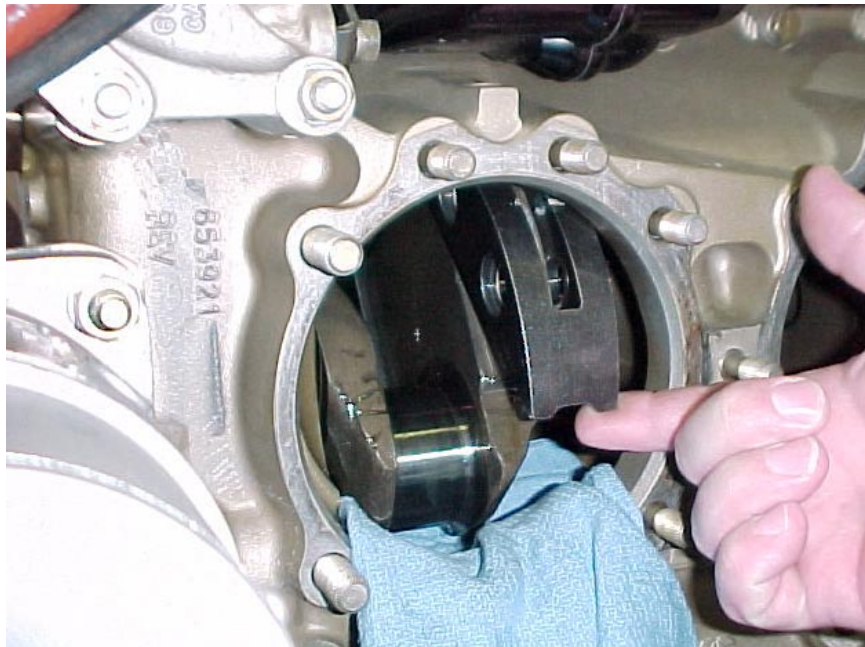

FIGURE 4. STARTING COUNTERWEIGHT THROUGH CYLINDER OPENING
11. Looking from the rear of the engine forward, turn the crankshaft in the counterclockwise direction far enough that the lower end of the counterweight can be started out through the cylinder opening by hand. See Figure 4. Now turn the crankshaft in the clockwise direction and remove the counterweight. See Figures 4, 5, 6 and 7.